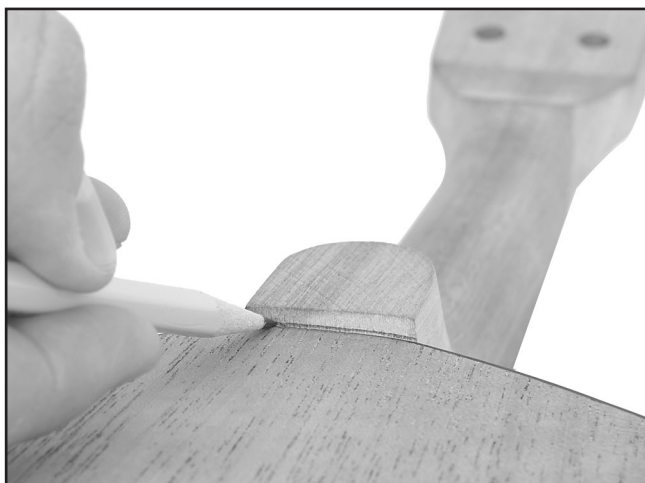

Figure 11. Marking bottom of neck.
11. Remove the fretboard, turn the mandolin over, and draw a line on the end of the neck where the body intersects it as shown in **Figure 11**. Extend this line around the neck using a straightedge.